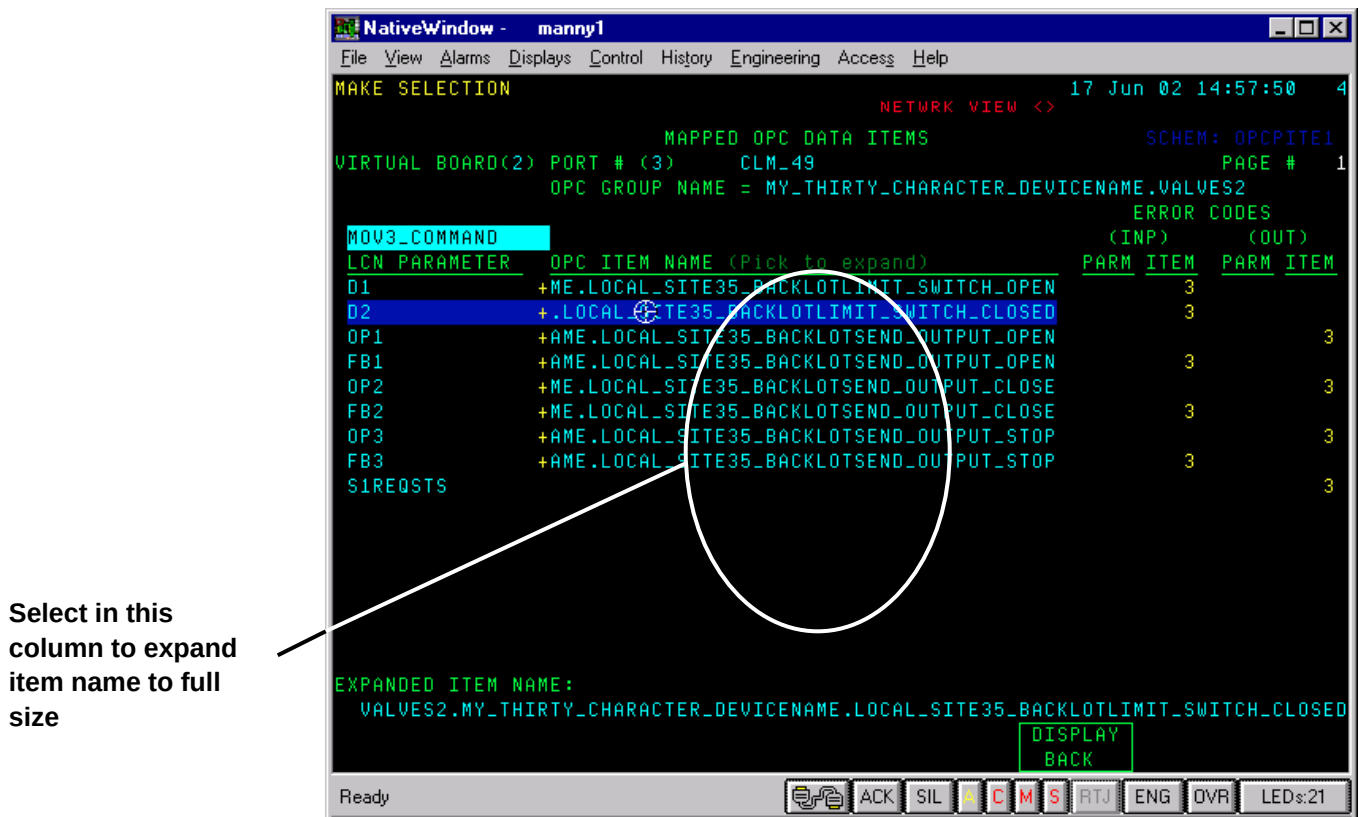

Figure 7.7-3 Mapped Data Item Display – Expanded Item Name
7.7.3.2	At the bottom of the screen, the full data item name is displayed (maximum of 100 characters). It is displayed in two rows, from top-right to bottom. See Figure 7.7-3 below.